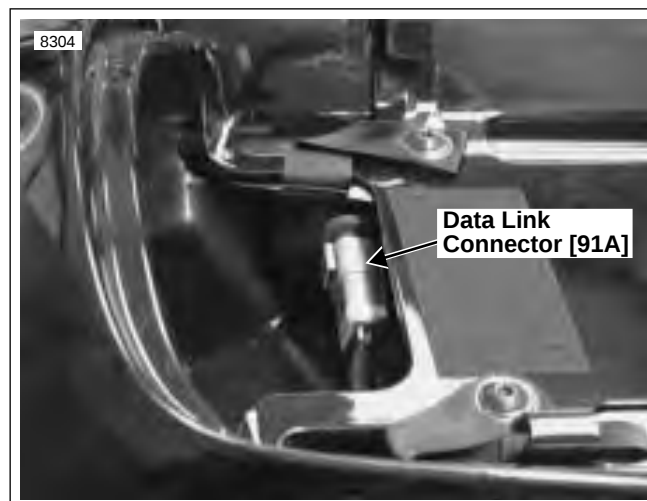

Figure 4-6. Data Link Location
See Figure 4-6. Using the Scanalyzer requires access to the data link connector [91A] located in the trunk. Remove the seat to access the data link connector. See 2.35 SEAT.
2. See Figure 4-6. Remove the seat. See 2.35 SEAT.